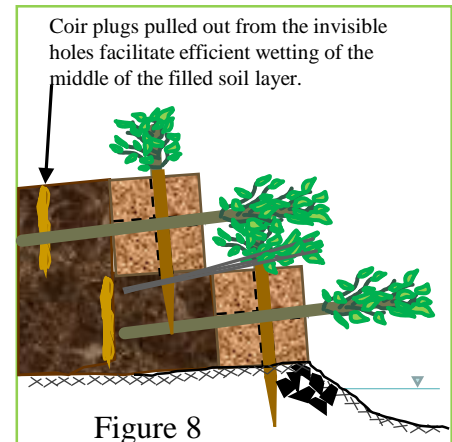

Figure 8
8. If necessary, keep building layers of BioD-SuperLog™ and repeat the above described installation procedure. One may insert live plant cuttings in between layers (Figure 8).